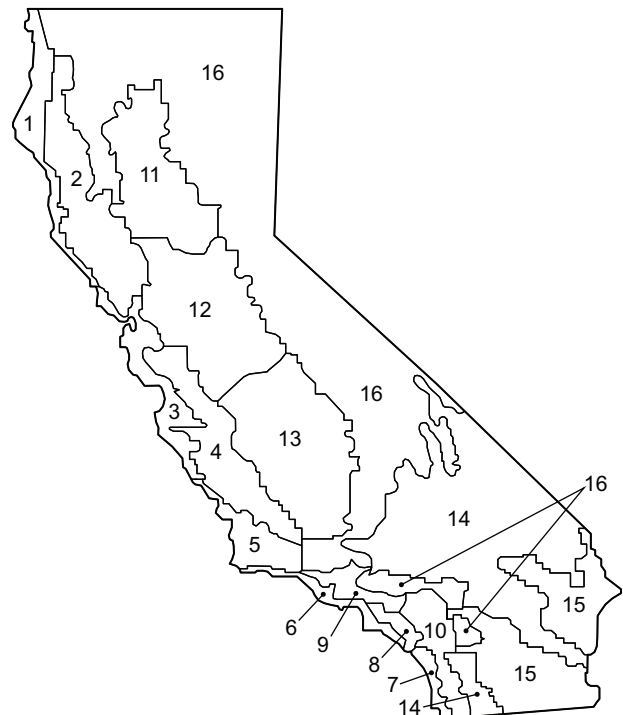

Fig. 69 – California Title 24 Zones
- b. See Fig. 69 for map of California Title 24 zones.